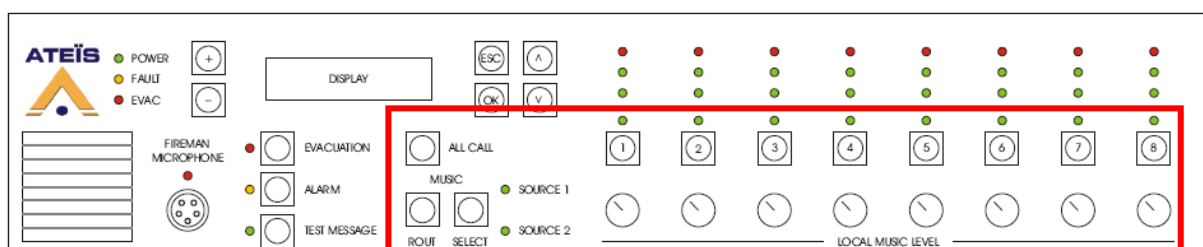

Figure 26: Music control on the DIVA front panel
- The Music controls are red highlighted on Figure 26.